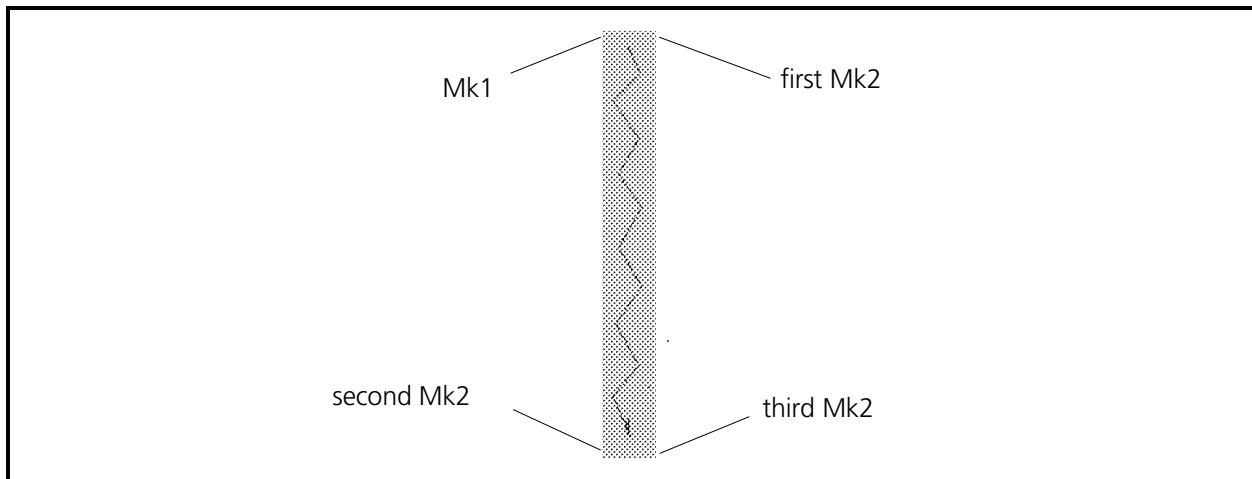

Figure 6-37
4. In this letter **I**, for simple straight column stitching, you define the beginning of the column with a Mk1 on the left side of the column at the top (see Figure 6-37).
5. Next click the Mk2 push button in the toolbar and enter a Mk2 at the beginning of the right side of the column at the top. (see Figure 6-37).
6. Now move to the bottom left of the letter to the end of the first line of the column and enter another Mk2 (see Figure 6-37).
7. The last step in generating the column is to go to the end of the second line of the column (at bottom right of the letter) and enter a third Mk2 (see Figure 6-37).